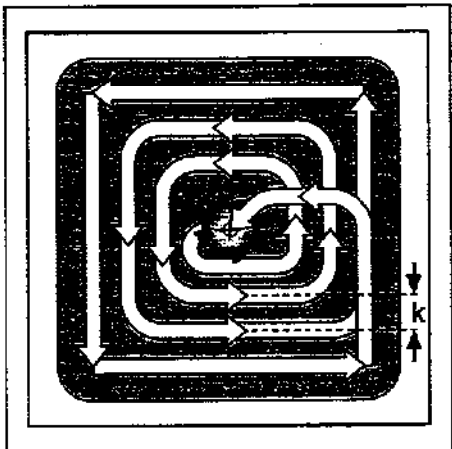

Fig. 8.9: Tool path for roughing-out
- the tool subsequently follows the programmed path at the specified feed rate (see figure 8-9)